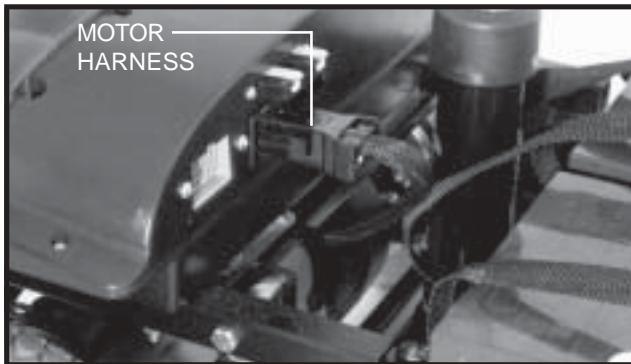

Figure 20. Motor Harness
**NOTE:** *There is no need to disconnect the motor harness when disassembling the scooter. See figure 20.*